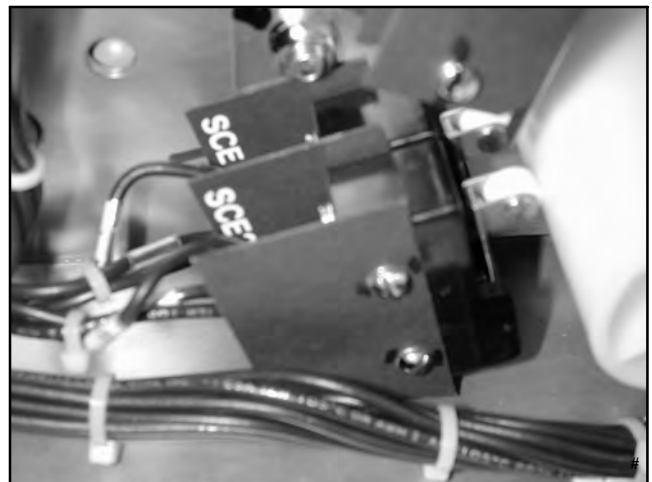

Figure 6-5 Microswitch Holding Screws
7. Remove the microswitch holding screws. See Figure 6-5.